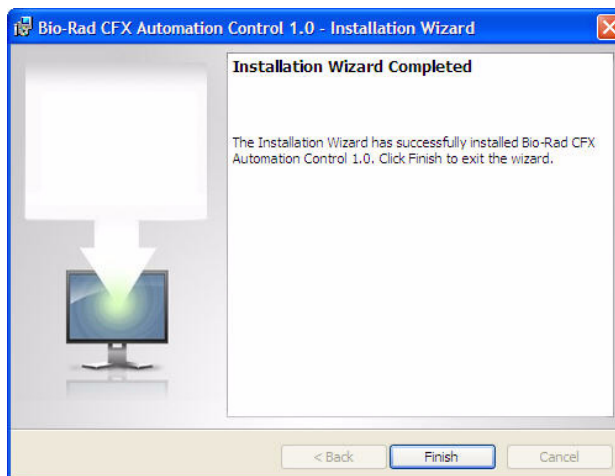

Figure 15. Software installation complete.
7. When the software installation is complete, click **Finish** to exit the installation wizard (Figure 15).